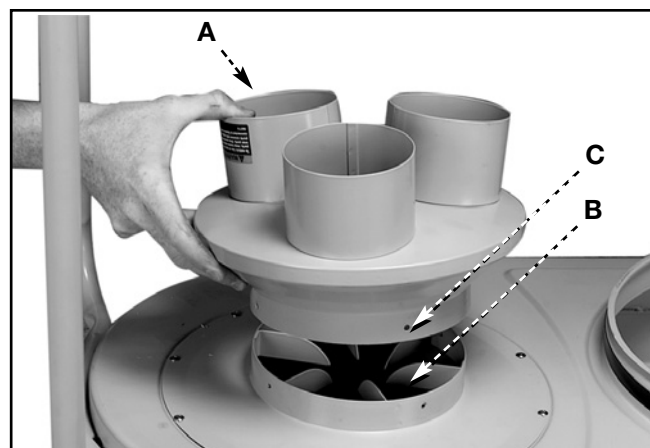

Fig. 7
Place dust intake port (A) Fig. 7 over intake hole (B) opposite the motor. Align four holes (C) in the port with the ones in the motor/blower assembly and fasten with four M4 sheet metal screws.